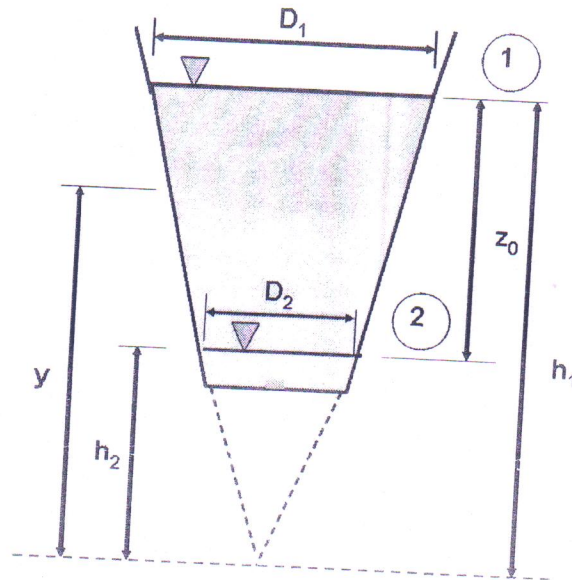

Figure-05
- b). In a refinery oil with R.D. = 0.80, and $\nu = 1.8 \times 10^{-5} \text{ m}^2/\text{s}$ flows through a 100 mm dia pipe at 0.50 lit/s. Is the flow laminar or turbulent? Find the centerline velocity, the velocity at $r=20 \text{ mm}$, the friction factor, the shear stress at the pipe wall and the head loss per meter of pipe length (08)
- Q. 5 a) The cone shaped tank as shown in Figure-05 has a orifice ($C_d=0.60$) in the bottom. Given $D_1=12.0 \text{ m}$ and $D_2=5.6 \text{ m}$, $Z_0=10.4 \text{ m}$ and that the water level outside the tank is constant at section-2, how long will it take the water level in the tank to drop from section 1 to section 2? (Note: The tank diameter = ky , and $y=z+h_2$, where z is the variable distance between surface levels.) (12)